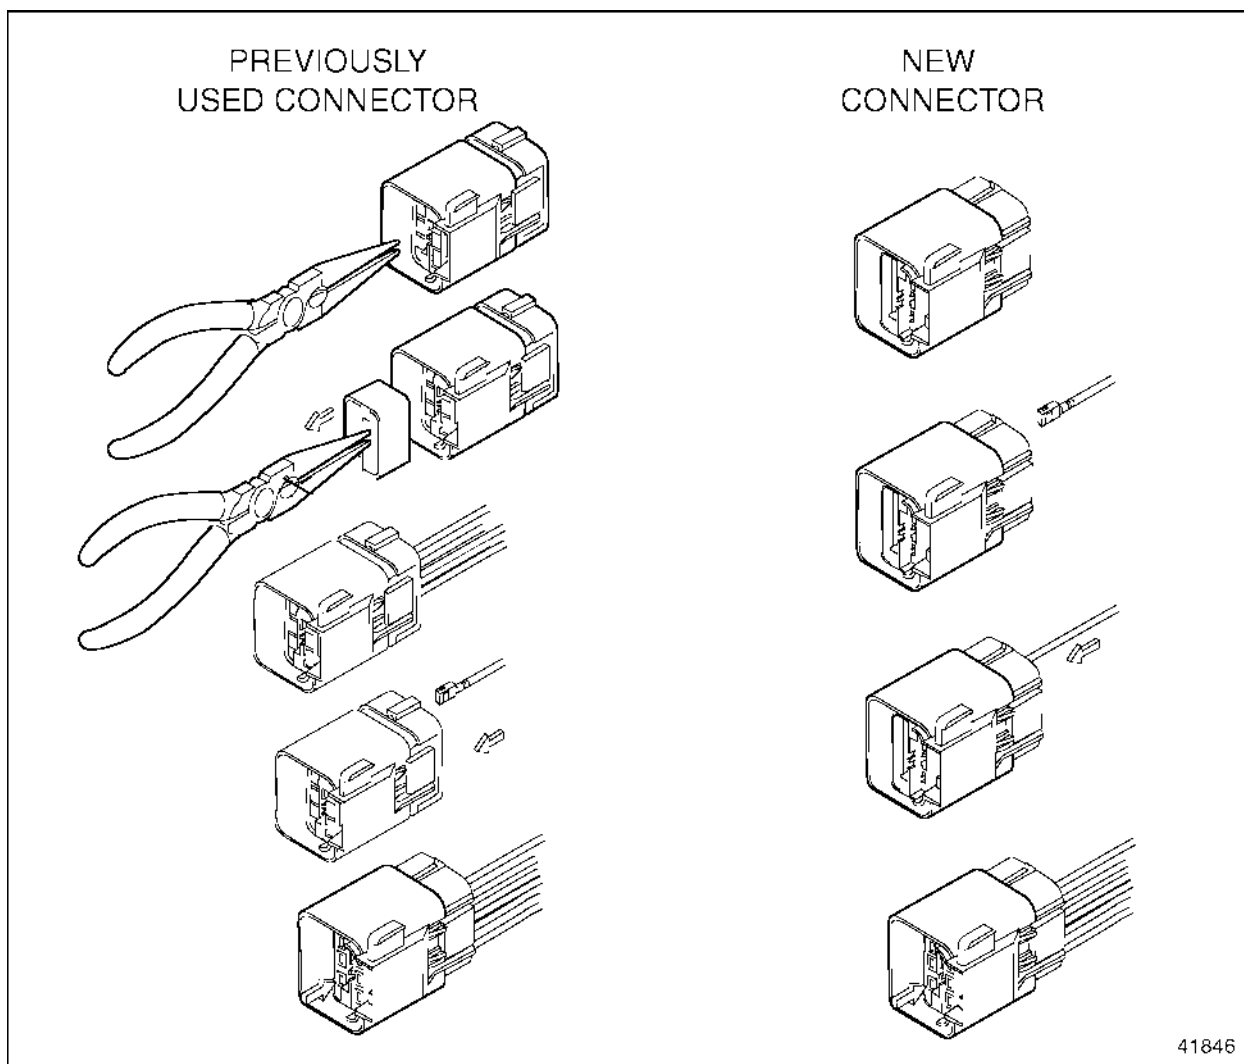

Figure 3-43 Installing the Terminal
- [b] If the connector is used, pull the TPA out (see Figure 3-43).
2. Insert the crimped terminal into the connector until it clicks (see Figure 3-43).